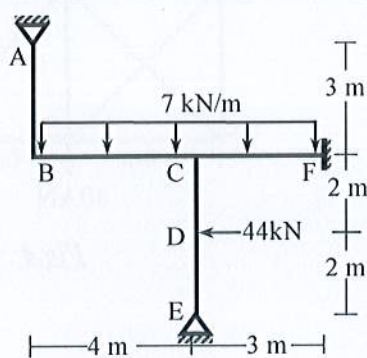

Fig.8
8. Analyze the frame as shown in **Fig.8**, using the Moment Distribution Method to draw bending moment diagram. [Given: $E = 200 \text{ GPa}$, $I = 90 \times 10^6 \text{ mm}^4$] [15]